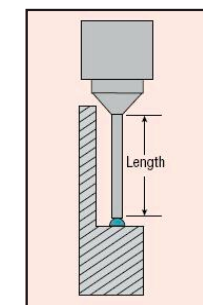

Figure 7-8 High sidewalls may necessitate longer needles, reducing speed
**High sidewalls slow dispensing.** High sidewalls adjacent to the gasket dispensing path may require an elongated needle to provide the necessary clearance for the dispensing head (Figure 7-8). The longer needle adds friction to material flow, reducing dispensing speed by as much as 75%. This can frequently be avoided by positioning high sidewalls on the mating part or by reducing their height to less